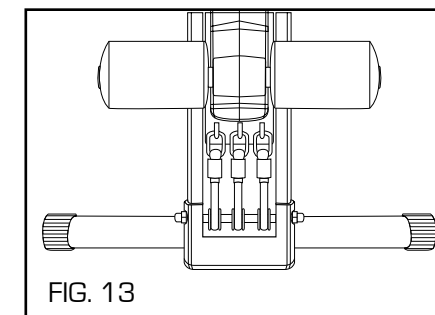

FIG. 13
1. Disengage the Cable Resistance Bands before placing the Positioning Bracket (see FIG. 13 & 14) below.
Fit a new Resistance Band by pushing it underneath the Rail Tube, then underneath the Carriage Assembly [see Fig. 13 & 14].